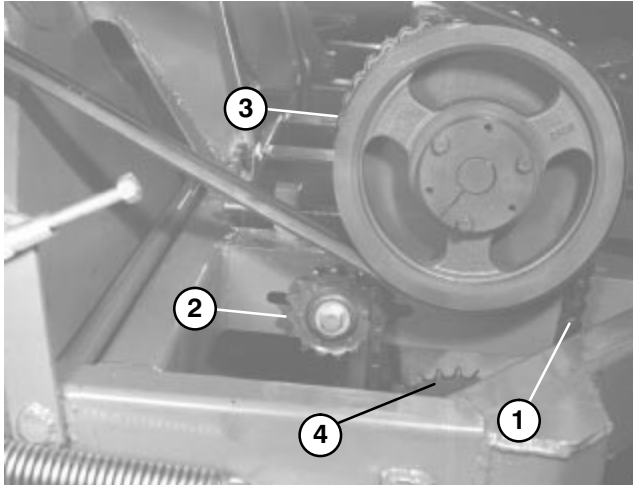

Figure 42
A. Loosen drive chain idler sprocket and back it off completely (Fig. 42).
B. Loosen (4) capscrews on gear box base and (2) capscrews on gear box shields.
Drive Chain (Model 07052 only) (Fig. 42)